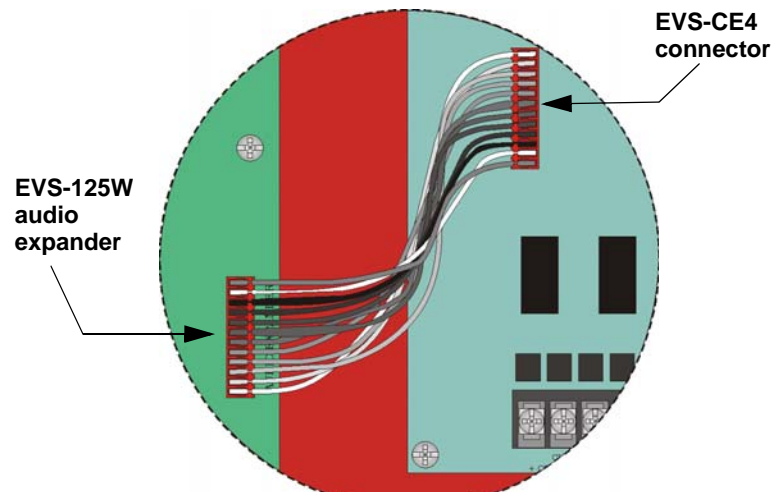

Figure 4.48 Audio Expander Wire Harness Connections
2. Connect the audio expander cable harness (P/N 130426) from the connector labeled “Audio Expander” on the EVS-50W/EVS-125W to the connector on the EVS-CE4 as shown in Figure 4.48.